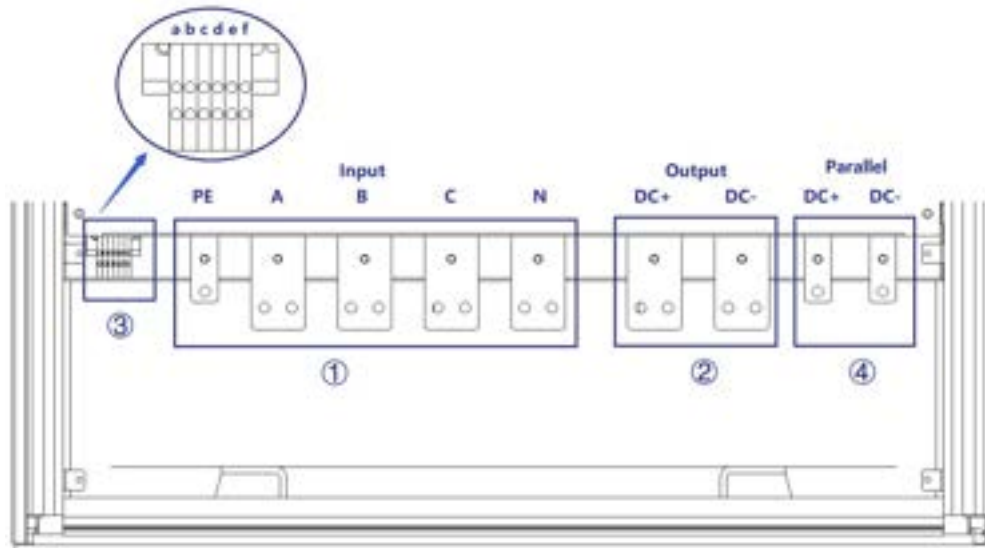

Figure 1-6-2 Power input / output connection layers (Cabinets in parallel)
When the output voltage of the power supply is $\geq 800V$, the position of the terminal strip (Figure 1-6-③) may change due to the clearance and creepage distance, as shown in Figure 1-6-2.
When the power supplies are used in parallel, the power input / output wiring layer is shown in Figure 1-6-2. Two smaller copper bars (Figure 1-6-2④) are used for parallel wiring between cabinets.